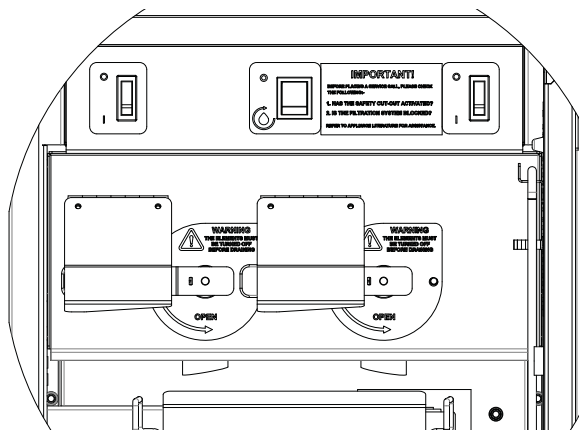

Figure 4 – E421F & E422F - Additional Controls
2.4.2 E421F & E422F - Additional Controls (See Figure 4)
Both pans are controlled by individual on/off switches that cut power to appliance. Ensure both switches are off. These are located as detailed in Figure 4.
2.4.3 E421F & E422F - Additional Controls (See Figure 4)